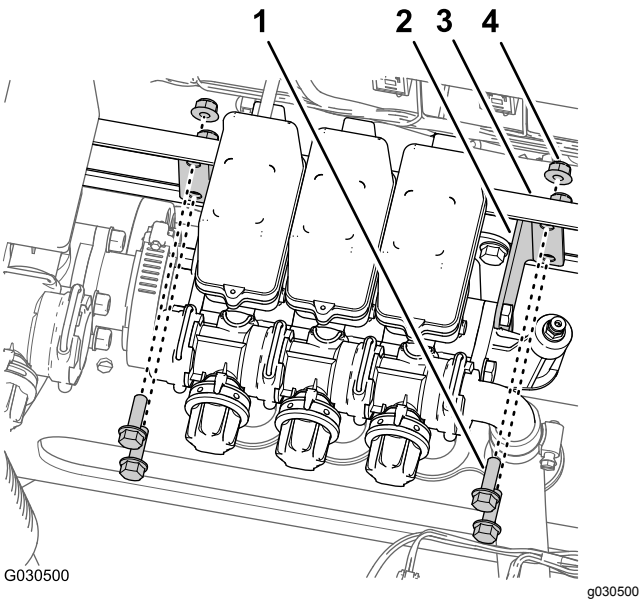

Figure 63
5. Remove the 4 flange-head bolts (5/16 x 1 inch) and 4 flange locknut (5/16 inch) that secure the mounting brackets at either end of the 3 boom-section valves to the manifold mount (Figure 63).